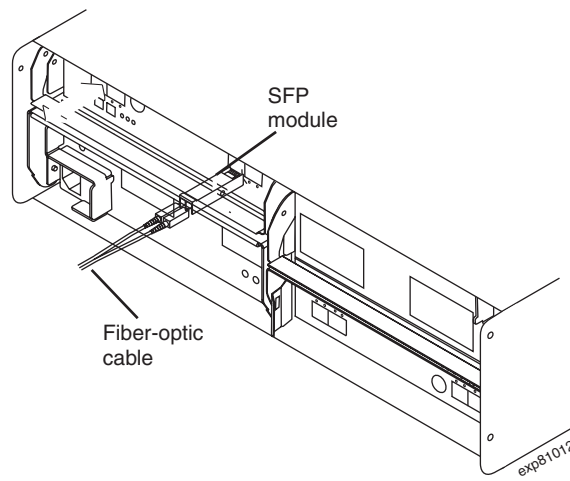

Figure 34. Installing an SFP module and connecting an LC-LC cable to the EXP420
3. Install an SFP module in the SFP port on the back of the EXP420; then, connect the other end of the LC-LC cable into the SFP module, as shown in Figure 34 on page 48.
Note: Figure 34 is for illustrative purposes only. The actual SFP module on your particular DS4000 storage expansion enclosure might appear differently than the one shown in the figure.